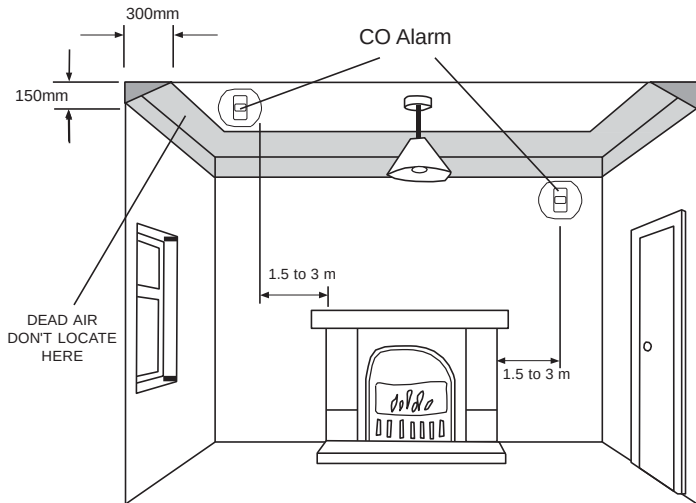

Figure 1
3.31 If locating the CO Alarm in a room with a fuel burning appliance (see figure 1)